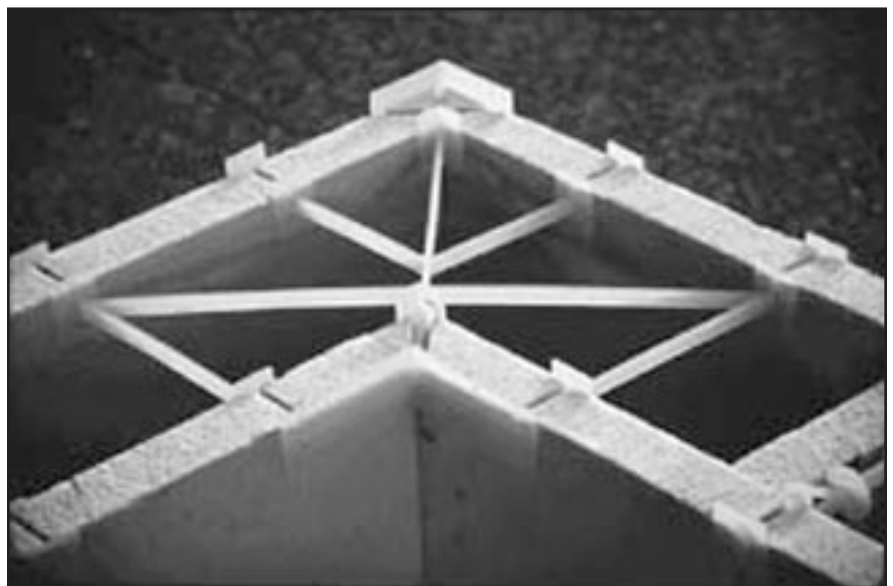

Figure 5
**Insulated Concrete Forms** Insulated concrete forms (ICFs) are made of expanded polystyrene or extruded polystyrene (See Figure 5). ICFs are attractive to builders because the lightweight blocks or panels used to make them are easy to assemble, and they reduce construction time and transportation costs. The forms are left in place after casting, for both below-grade and above-grade walls.